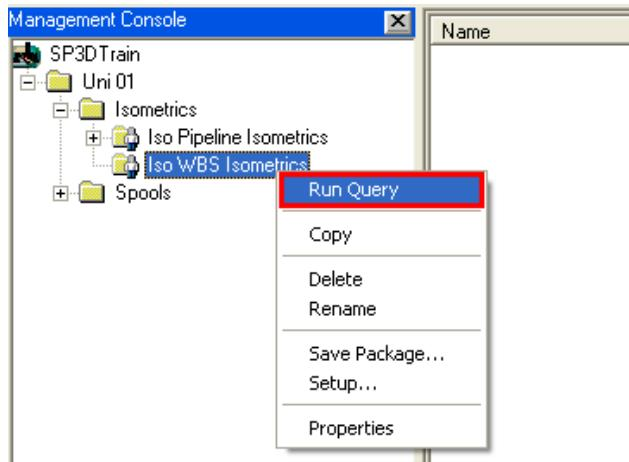

Figure 38: Run Query Option
40. Right-click the **Iso WBS Isometrics** component in the **Management Console** and select the **Run Query** option, as shown in Figure 38. SP3D uses the query defined in the **Iso WBS Isometrics** component to find the WBS items with **Iso fabrication** in the model and displays the result of the search in the drawing hierarchy.